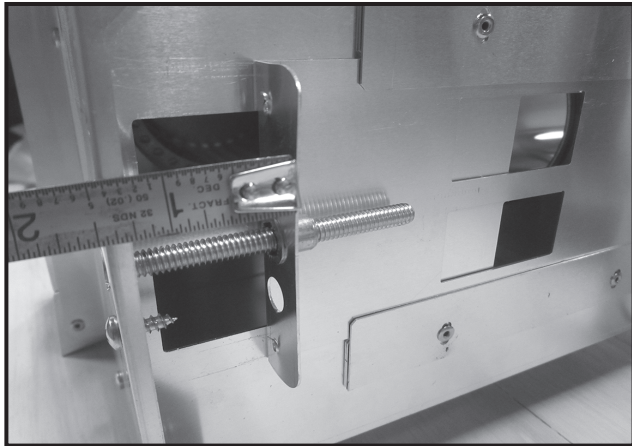

Figure 3.17
**NOTE:** Use a tape measure to measure the distance from the front cover to the flange on the air baffle. See Figure 3.17.